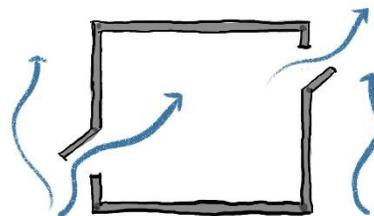

Fig. 27: Breeze steerers
e) **“Breeze steerers”** (Fig. 27) since not all parts of a building can be oriented for cross-ventilation, architectural elements can steer air into a room: